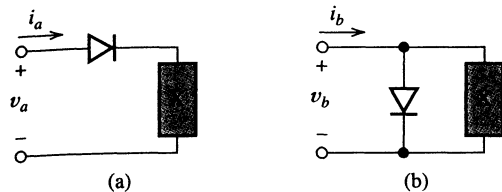

Figure P3.12
3.12. Sketch i against v to scale for the circuits displayed in Figure P3.12. The individual device characteristics are shown in Figures P3.9d and e.